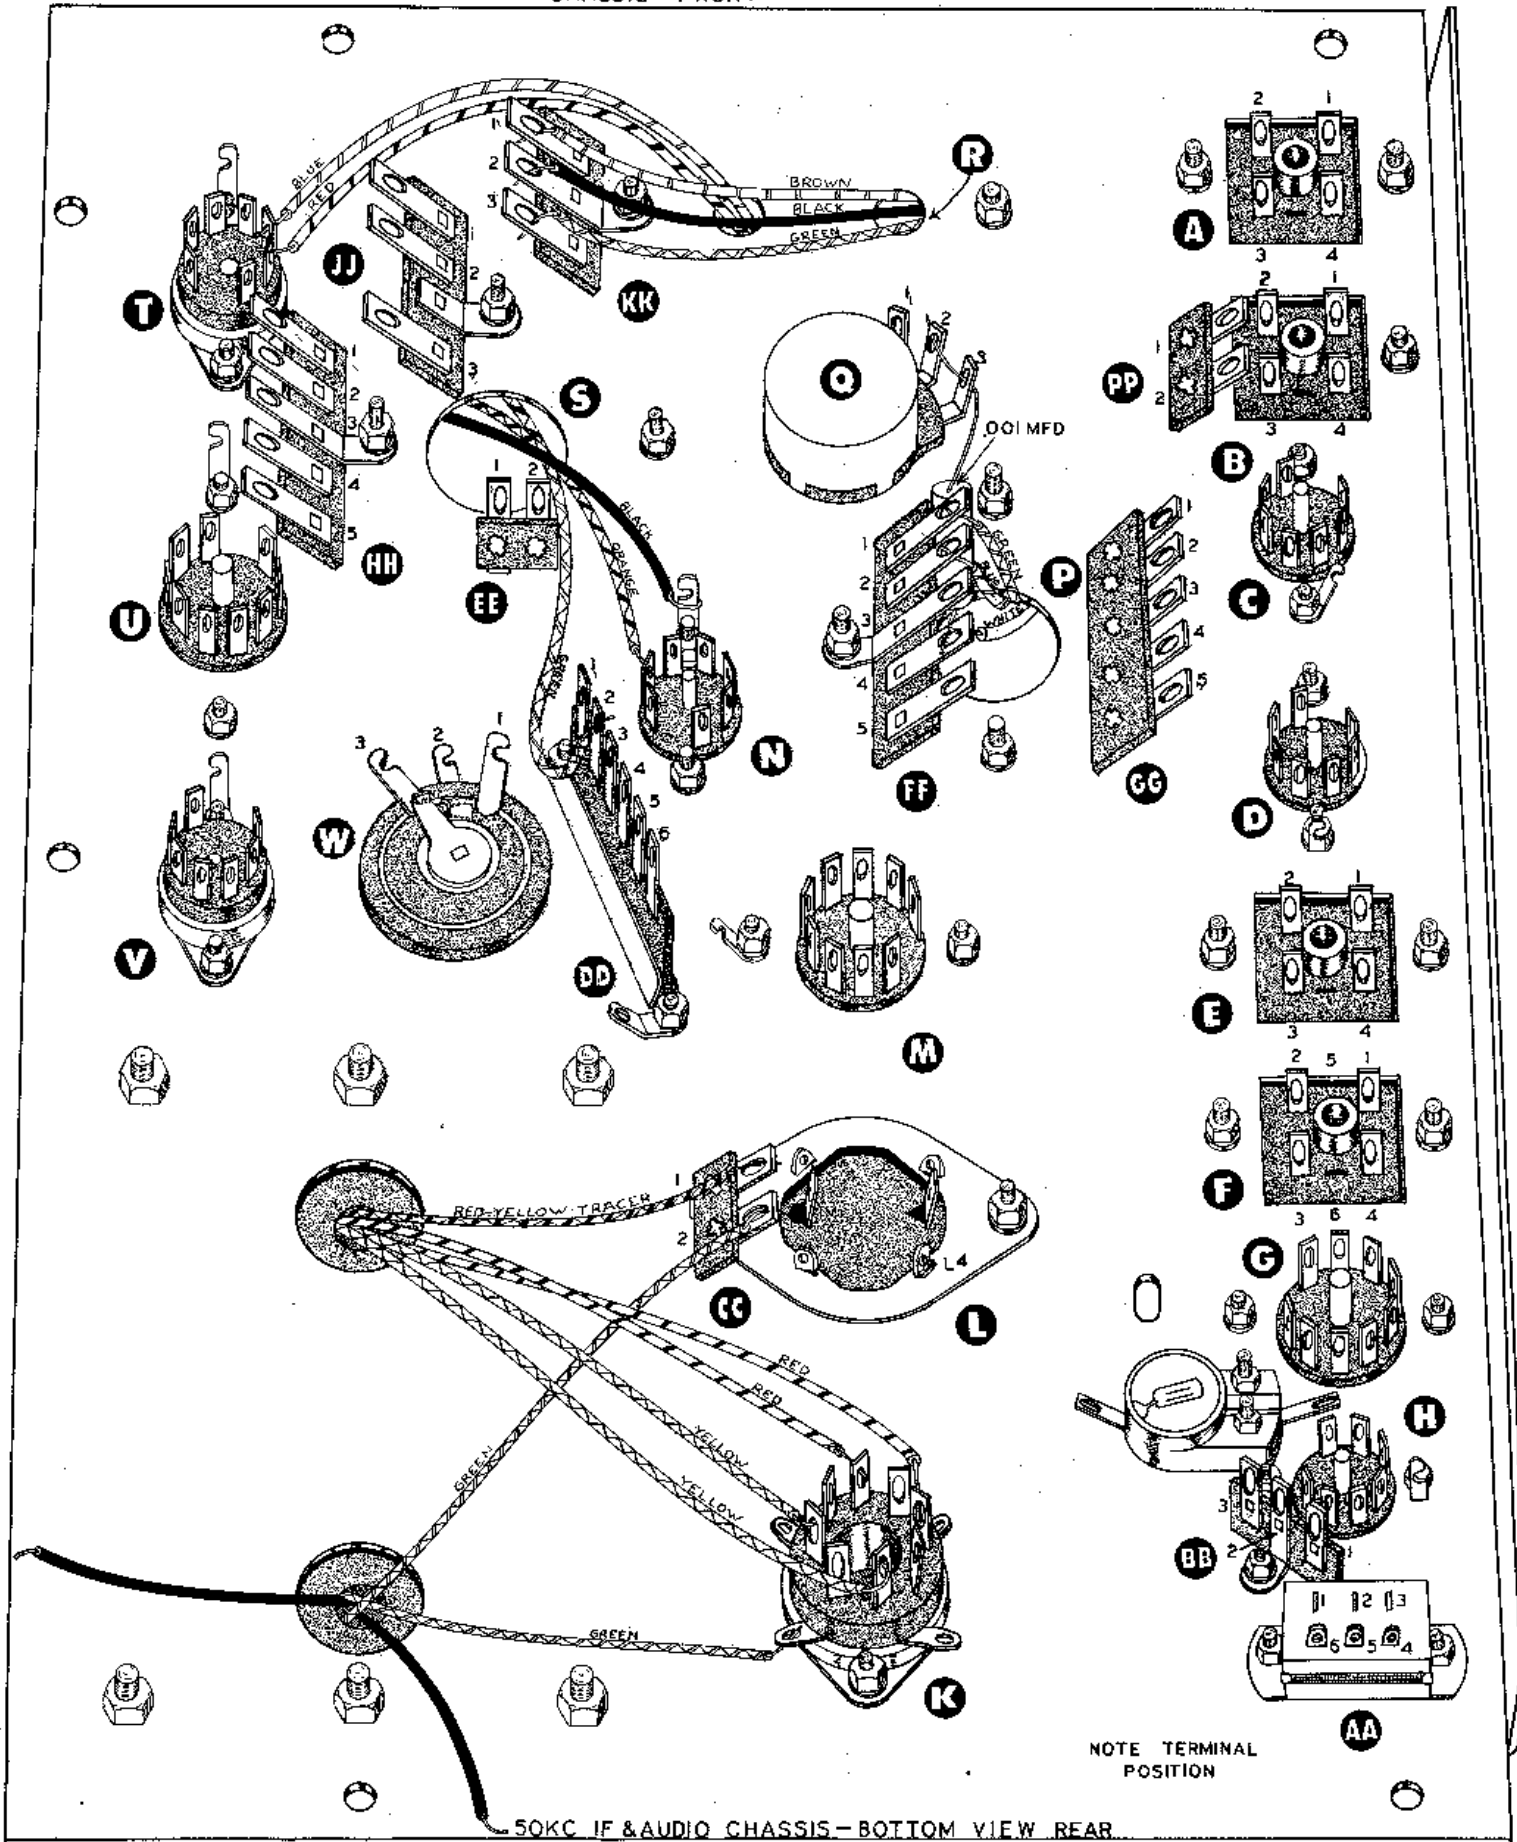

Figure 4
- () By referring to Figure 4, locate the IF-Audio chassis and mount a 7 pin miniature shielded ceramic socket at hole C with the tube pins faced as shown, using 3-48 x 1/4" screws with a nut and lockwasher on the front mounting holes. On the rear mounting hole, mount a small solder lug with a lockwasher on each side of it. Position and bend lug as shown.
- () Identify the 6 pin special socket by referring to Figure 4 (rear corner). Note that three terminals are at right angles to the others. Mount the socket at location AA, positioning the terminals as shown; use 3-48 screws, lockwashers and nuts.
- () Mount a 3 lug terminal strip in the hole next to the ceramic trimmer capacitor as shown in Figure 4.
- () Mount the capacitor wafer at hole L. Identify the metal wafer and a 2 lug terminal strip from Figure 4 and mount the two together as shown, using 6-32 hardware.
- () There are four 50 KC IF transformers which are all electrically the same. Mount in holes A, B, E, and F, using 4-40 nuts and lockwashers. The transformers have numbers on the base which must be in the positions shown on Figure 4. Using the mounting stud of the 50 KC IF transformer "B", mount a 2 lug terminal strip as shown.
- () The filter capacitor consists of a 100 mfd and 40 mfd section. Note that the 100 mfd section is marked with a U shaped cut out and the 40 mfd section with a triangle. This capacitor is mounted by sliding the ears through the holes in the mounting wafer from the top of the chassis with the U shaped hole toward the power transformer. When the capacitor is correctly positioned, hold it tight against the chassis and secure by twisting the ears approximately 1/8 turn. Solder lug L4 to capacitor mounting wafer as shown in Figure 4.
shaft toward the front of the chassis (away from the power transformer). Two of the studs have 5 lug terminal strips on them. See Figure 4 page 20 for type and position of terminal strips. Assemble these last and place lockwashers on each side of the terminal strip mounting feet.
- () Identify the BFO coil by the marking 40-121 on top. This unit is mounted in the same manner as the bridged T but at hole S. There are 2 lug, 3 lug, and 5 lug terminal strips mounted by means of the coil studs. See Figure 4 for type and mounting positions of the terminal strips. As before, center the stud in the slotted chassis holes and face tuning shaft toward the front of the chassis.
See Figure 4 for the following wiring.
- () On the BFO coil S, connect the black lead to the ground lug at socket N (NS).
- () Connect the orange lead to N2 (NS).
- () Connect the green lead to DD2 (NS).
- () See Figure 4 page 20 and place a .001 mfd paper capacitor where shown. Connect one lead to FF4 (NS); run the other lead through Q3 to Q2; solder Q3 and Q2.
- () Connect the green wire from the Bridge T coil P to FF1 (NS).
- () Connect the blue wire to FF2 (NS).